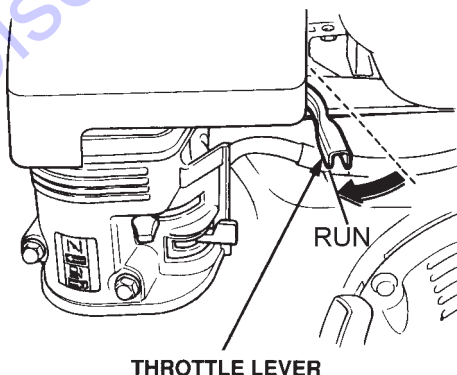

Figure 14. Throttle Lever (Run)
- To begin pumping, place the throttle lever (Figure 14) in the **"RUN"** position.